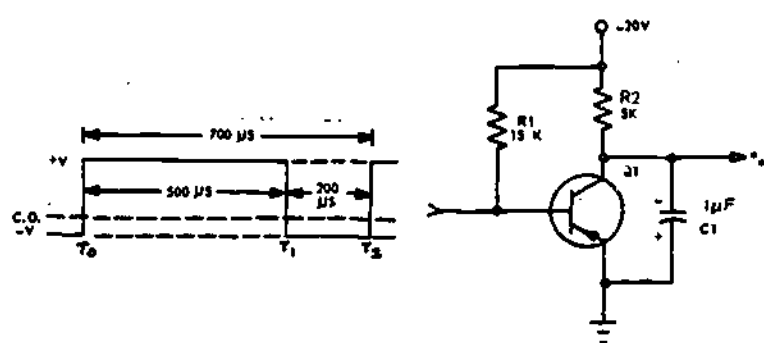
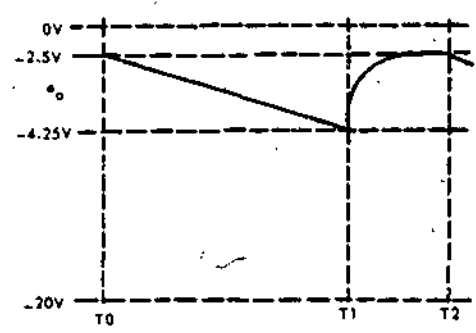

Figure 48-3
Figure 48-4
For questions 1 through 9 refer to figure 48-3 and figure 48-4 as necessary.
1. Before the input gate is applied to the transistor sawtooth generator (figure 48-3), Q1 is biased near (cutoff) (saturation). After the input is applied, the (positive) (negative) going portion of the input gate (saturates) (cuts off) Q1, and C1 starts to charge.
4. Frequency of the output from the figure 48-3 sawtooth generator is _____ Hz.
and information from figures 48-3 and 48-4, calculate the percentage of V_{CC} that C1 is allowed to charge.
6. The sawtooth output from figure 48-3 is (linear) (nonlinear); increasing the width of the positive going input gate (T0 to T1) would (improve) (impair) the linearity.
7. The output linearity from the figure 48-3 sawtooth generator could be improved by
9. Given the information in figures 48-3 and 48-4, if the positive input gate is removed, a multimeter connected from the collector to ground would indicate approximately